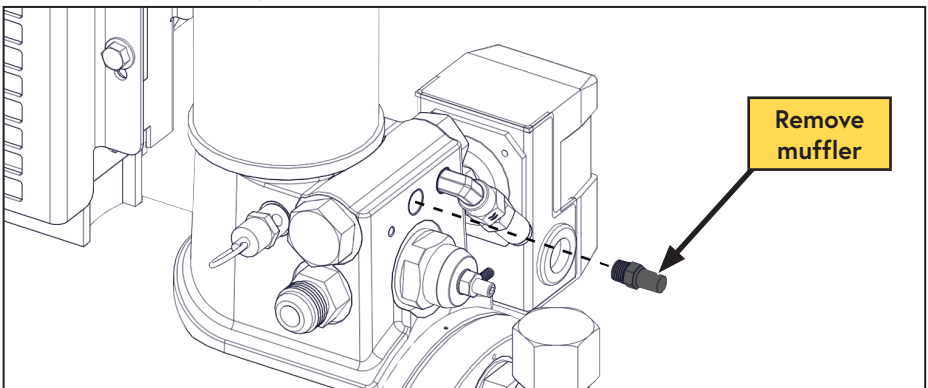

Figure 28 — Remove blowdown muffler
- Remove the blowdown muffler from the side of the WHASP Tank (below the coalescing filter) (Figure 28).